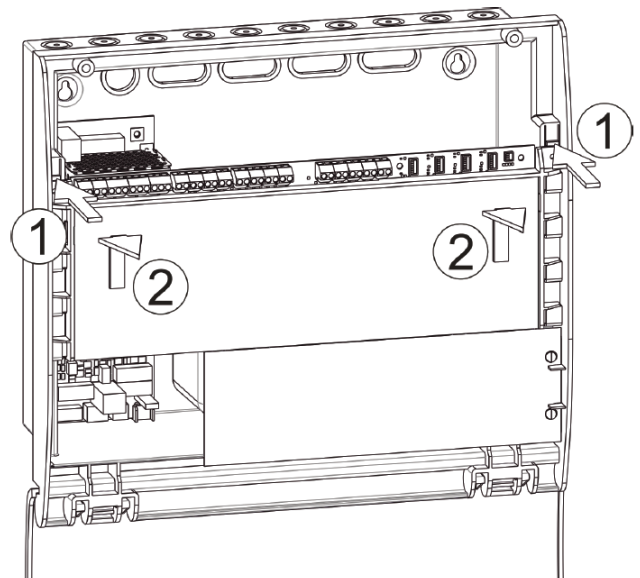
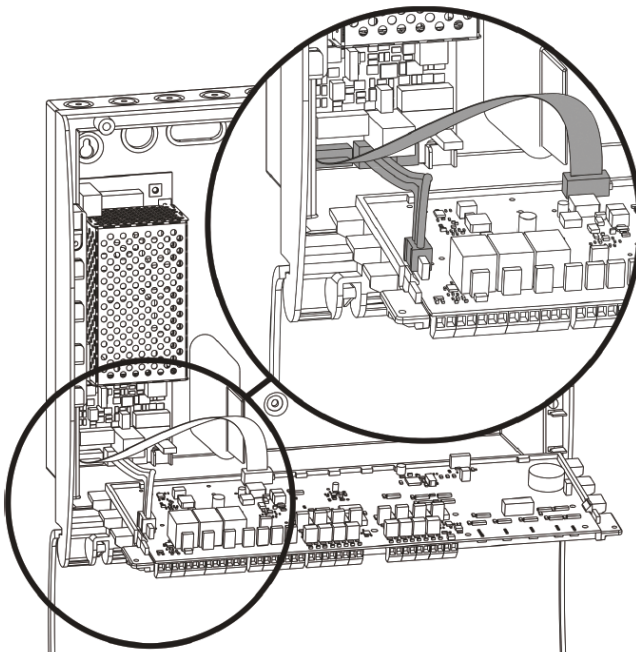
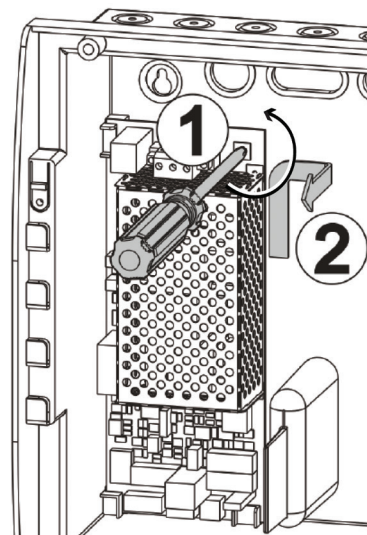

Figure 16. Remove the PSE Shelf
Figure 17. Disconnect the PSE
Figure 18. Remove the PSE
- To remove the PCB shelf push the clips down ①, then push the shelf towards the top of the back box and then lift forwards ②, see Figure 17.
- To remove the PSE PCB from the back box unplug the cables from the main board as shown in Figure 17, then simply remove the screw and push the PCB up, to the right and forwards as shown in Figure 18.
- Secure the PSE PCB back into the back box by following the reverse instructions in Figure 18.
- Fit the PCB shelf and cables by following the reverse instructions in Figure 16 and Figure 17 on page 13.